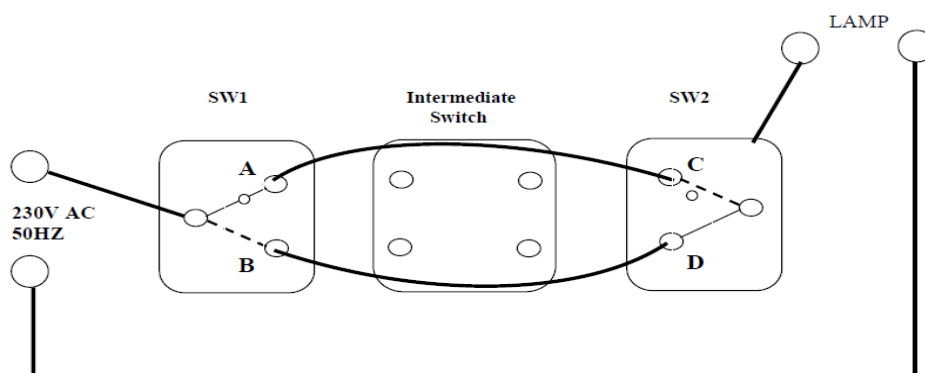

Fig 6.1
- Connect the circuit as per figure 6.1 for two way control.